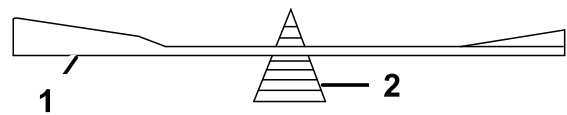

Figure 92
2. Check the balance of the blade by putting it on a blade balancer (Figure 92).